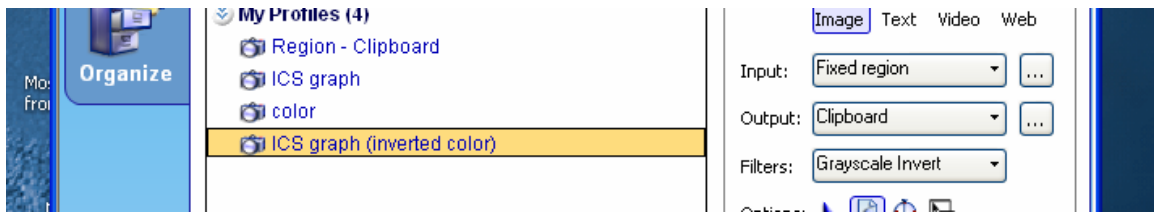

Figure 66: Choosing Profile
2. Choose ICS graph (Inverted color), seen in Figure 66. This is chosen because we want white background and solid lines for our graphs.